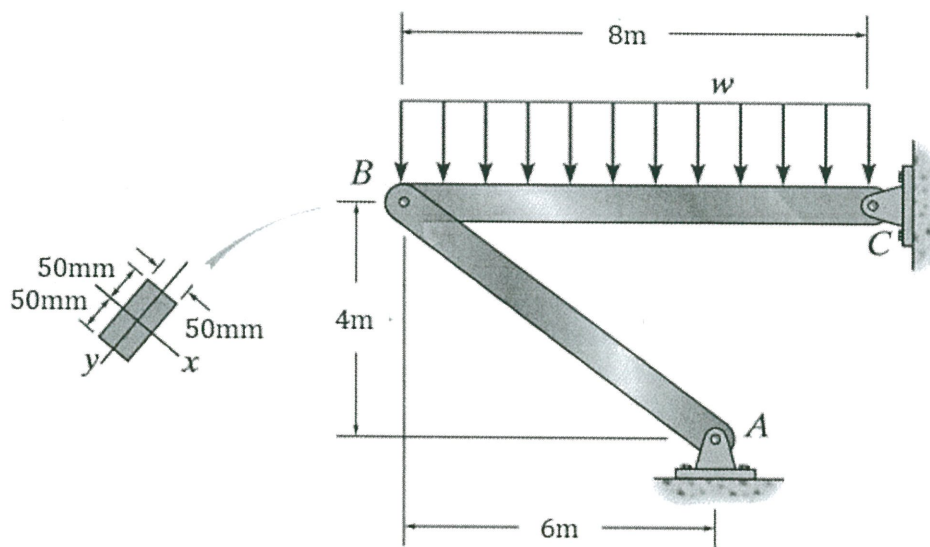

Figure Q2
- (b) Steel bar AB in **Figure Q2** is pin connected at its ends for buckling in y - y axis. Given $w = 4\text{kN/m}$, $E_{st} = 210\text{ GPa}$ and $\sigma_Y = 380\text{ MPa}$: